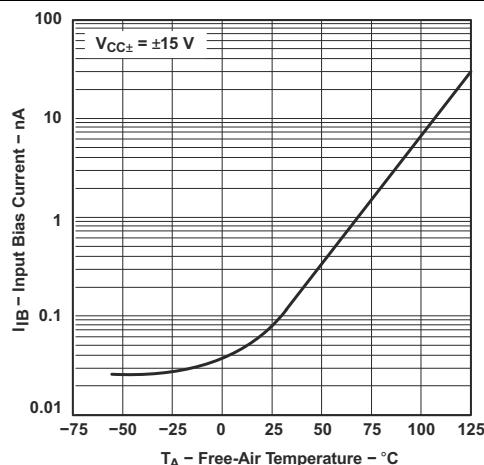

Figure 6-40. Input Bias Current vs Free-Air Temperature
- (1) Input bias currents of an FET-input operational amplifier are normal junction reverse currents, which are temperature sensitive, as shown in Figure 6-40. Pulse techniques must be used that will maintain the junction temperature as close to the ambient temperature as possible.
- (2) All characteristics are measured under open-loop conditions with zero common-mode voltage, unless otherwise specified. Full range is $T_A = -55^\circ\text{C}$ to 125°C .